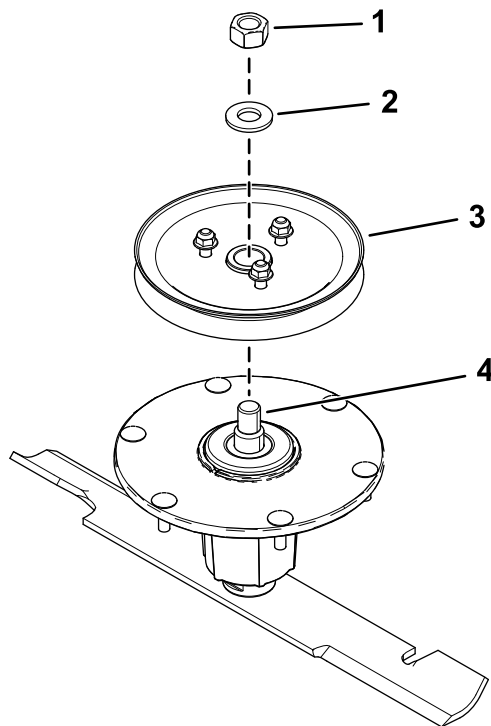

Figure 10
4. Install the sheave assembly to the spindle using the washer and top nut (Figure 10).